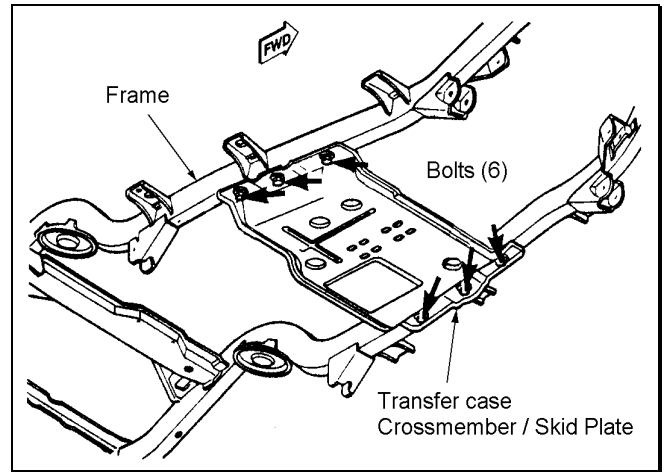

Figure 17
- 1)  Place the transmission in neutral. Support the transfer case crossmember/skid plate with a hydraulic jack. Loosen the 6 bolts holding the crossmember to the frame. See figure 17. Do not use an impact gun.